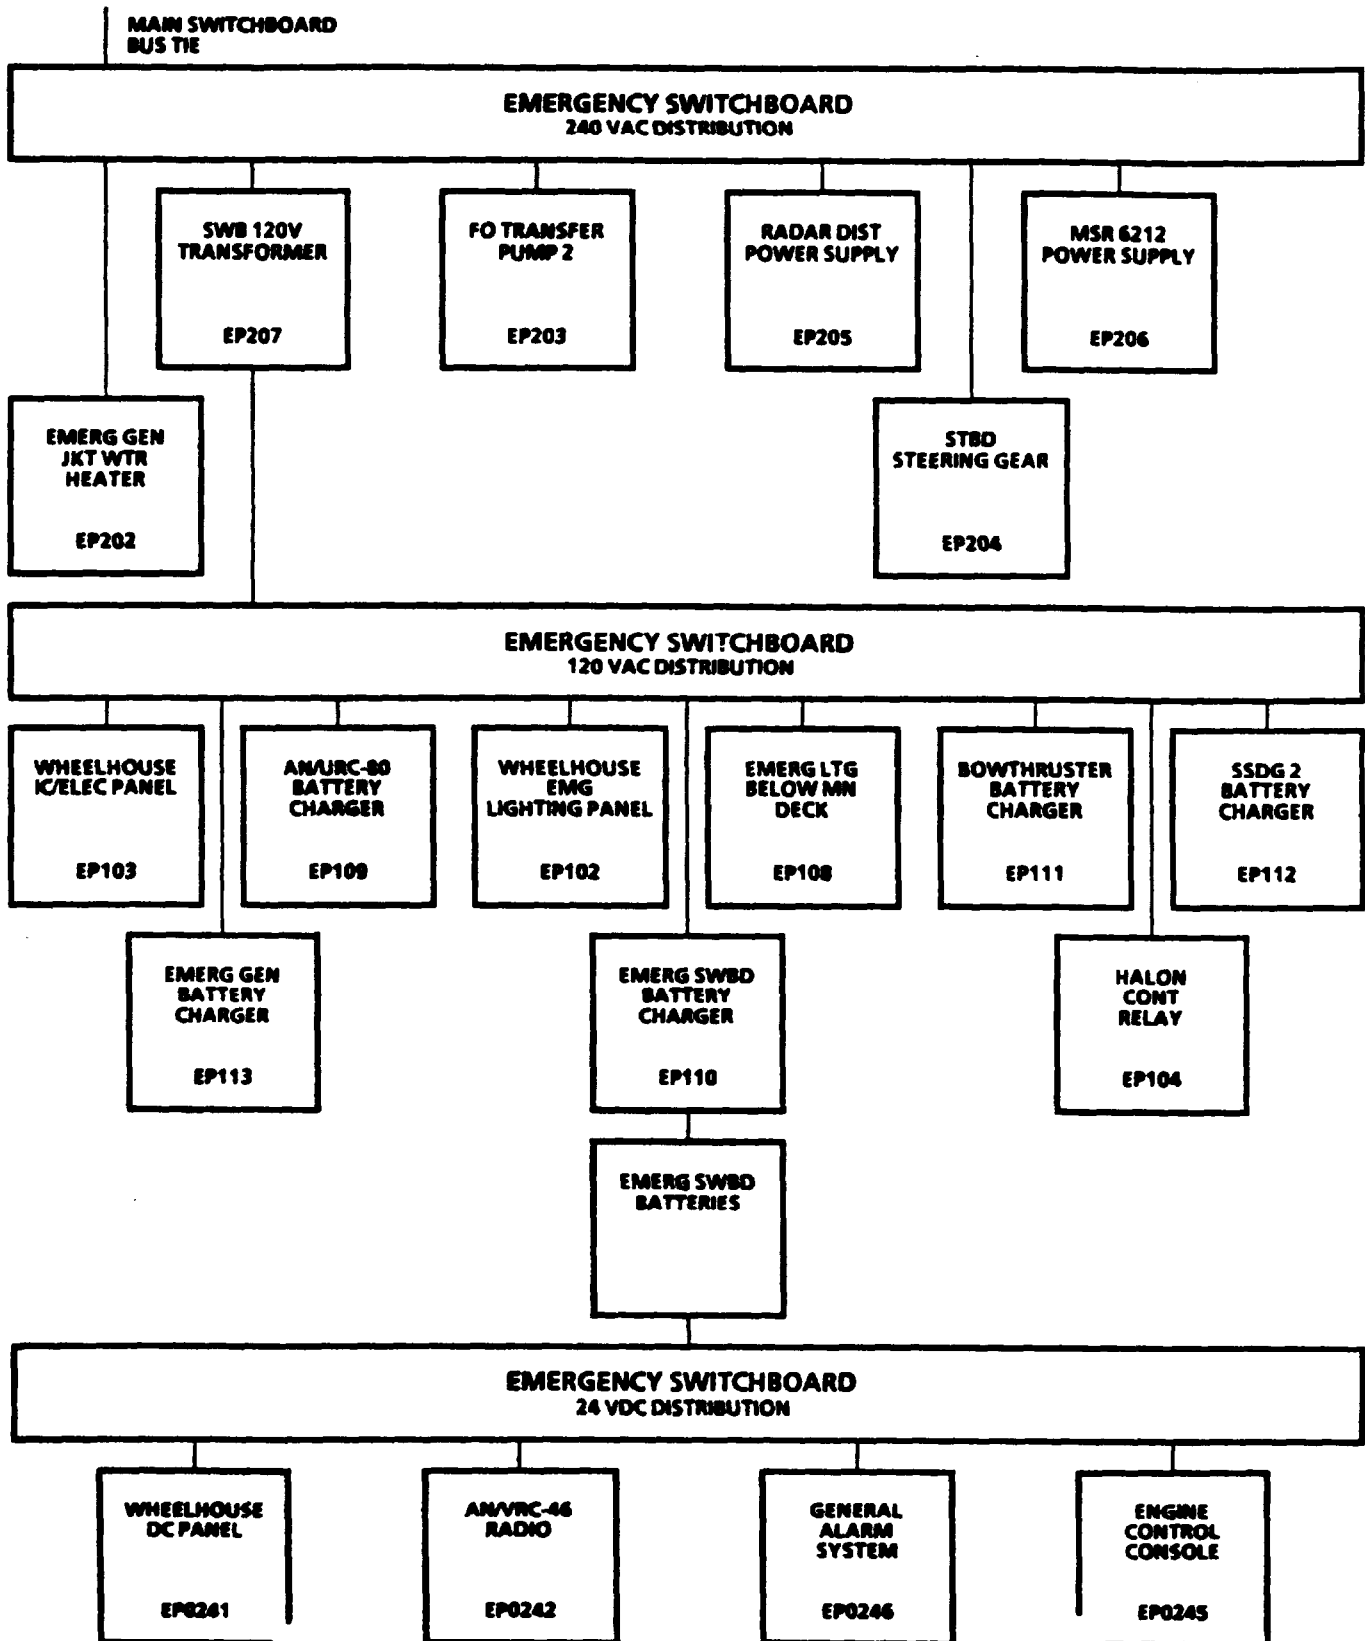

FIGURE 1-3. Emergency Switchboard.
d. Emergency Switchboard. The emergency switchboard (FIGURE 1-3), located in the emergency generator room, normally receives 240 Vac primary power from the main